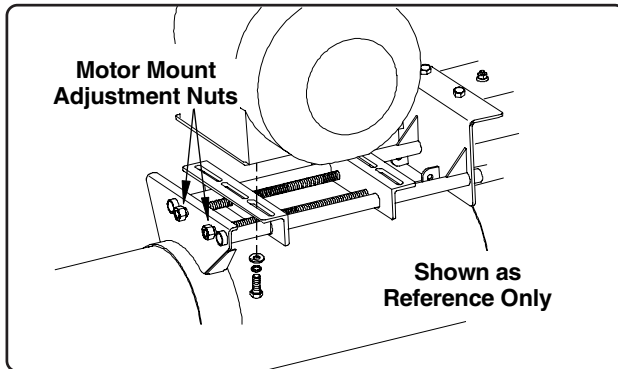

Fig. 9
1. Note the two 3/4" nuts securing the threaded rods to the motor mount plate (See Fig. 9). Adjust these nuts to obtain proper belt tension. Make sure to adjust the nuts equally to keep the motor and drive sheaves properly aligned. **Do Not overtighten.**